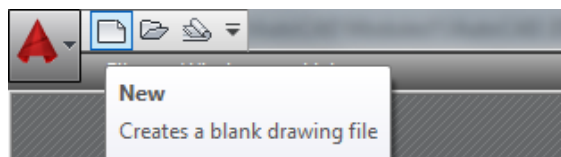

Figure Step 2
Step 2 Click the New icon. This will open the Select Template dialogue box. (Figure Step 2)